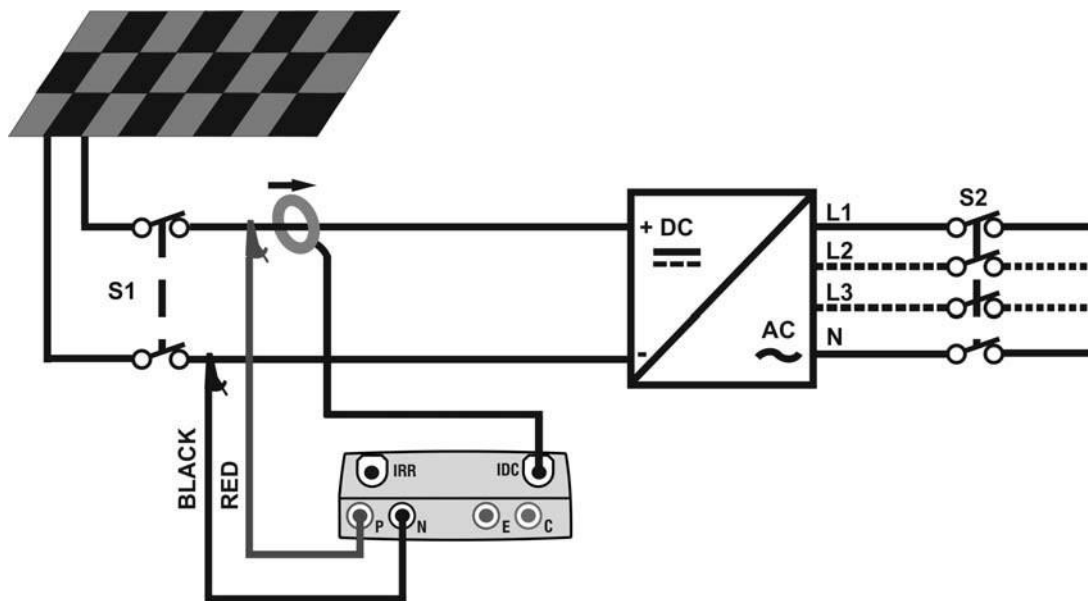

Fig. 5: Instrument connection for measuring PV installation parameters without SOLAR-02
3. Connect the inputs **P** and **N** respectively to the positive and negative output of the string, respecting the colours indicated in Fig. 5
5. Connect the DC current clamp to the positive output conductor of the string, **respecting the direction of the arrow** found on the clamp itself as indicated in Fig. 5. Position the clamp so that the jaw is not near the negative conductor.